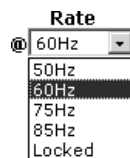

Figure 46. Rate @ Drop Box
1. Click in the **Rate** field. A drop down box appears (see figure 46).